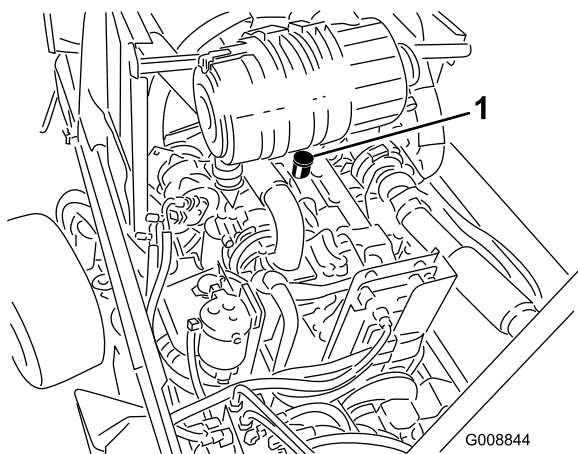

Figure 60
3. If the oil is below the Low mark, remove the fill cap (Figure 60) and add oil until the level reaches the Full mark. **Do not overfill.**